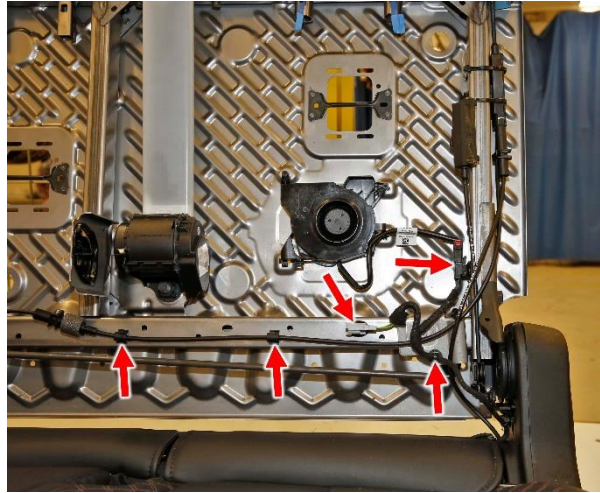

Figure 34 – Harness Cable Retainers
- 35. Disconnect the seat fan electrical connector then release the wire harness connector retainer from the seat frame (Figure 34).
- 36. Release the seat heater wire harness connector retainer from the seat frame (Figure 34).
- 37. Release the EZ-Entry handle cable retainers from the seat frame lower crossmember (Figure 34).
66. Install the EZ-Entry handle cable retainers to the seat back frame lower crossmember (Figure 34).
67. Install the seat heater wire harness connector retainer from the seat back frame (Figure 34).
68. Connect the seat fan electrical connector then install the wire harness connector retainer to the seat back frame (Figure 34).